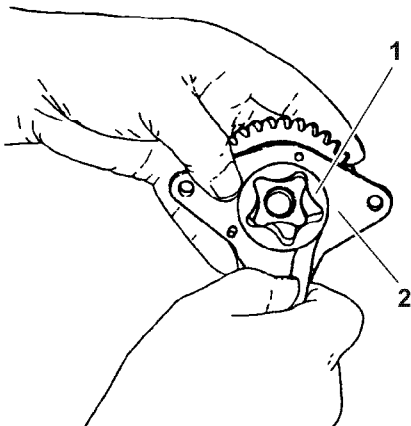

Figure 9-5
Inspect the outside diameter clearance of the outer rotor. To inspect this, insert a feeler gauge between the outer rotor (**Figure 9-5, (1)**) and the lubricating oil pump body (**Figure 9-5, (2)**).